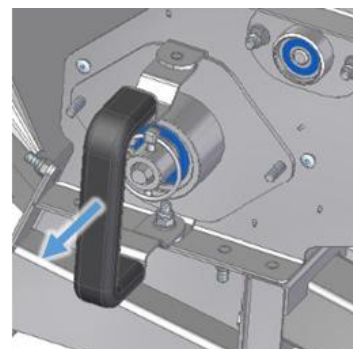

Figure 17
- The entire bearing flange along with the seeding shaft is then pulled off (see Figure 17).